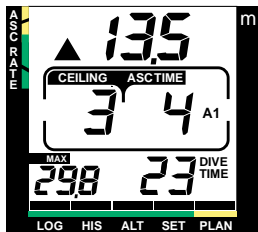

Fig. 3.14 DECOMPRESSION DIVE, BELOW THE CEILING ZONE
- the no-decompression dive turns into a decompression dive. One arrow pointing upwards and the ascend warning CEILING/ASC TIME will appear (Fig. 3.14). LUX S model gives also an audible alarm: three single beeps.
When your NO DEC TIME becomes zero, your dive becomes a decompression dive, i.e. you must perform one or several decompression stops on your way to the surface. The NO DEC TIME on your display will be replaced by a flashing notation CEILING/ ASC TIME (Fig. 3.14).
The CEILING/ASC TIME symbol and upwards pointing arrow indicate that you are below the ceiling zone (Fig. 3.14). You should start your ascent immediately.